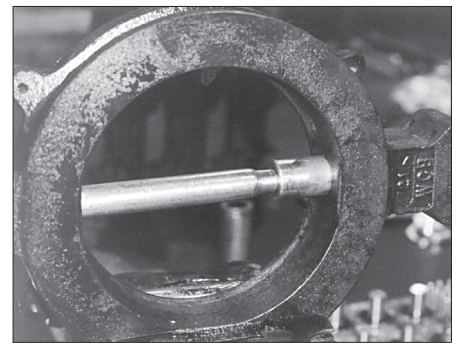

Figure 6 - Shaft bearing flush with the flow path surface.
4. Strike the tool with a hammer to continue inserting the shaft bearing until it is flush with the body flowpath surface. (see Figure 6)